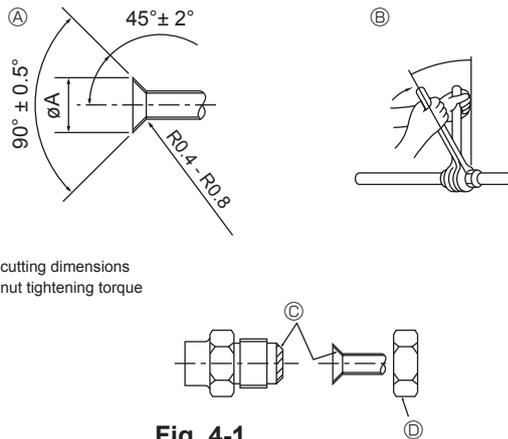

Fig. 4-1
(A) (Fig. 4-1)
(B) (Fig. 4-1)
4.2. Connecting pipes (Fig. 4-1)
- Apply thin layer of refrigerant oil to pipe and joint seating surface before tightening flare nut. (A)
- Use 2 wrenches to tighten piping connections. (B)
- Apply refrigerating machine oil over the entire flare seat surface. (C)
- Use the flare nuts for the following pipe size. (D)